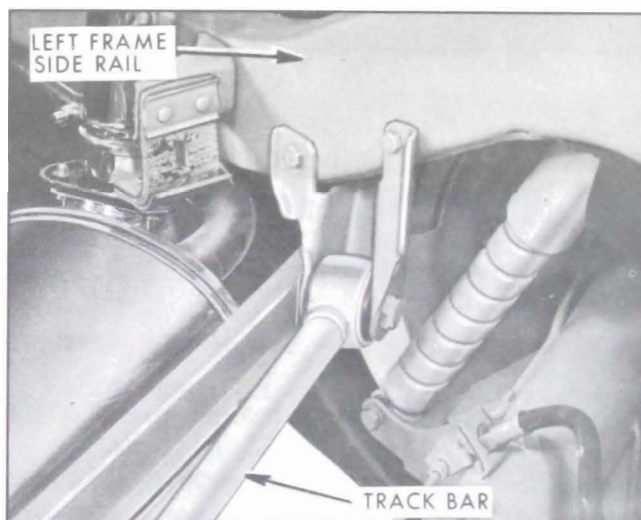

Figure 7-24—Track Bar-Frame Attachment
5. If track bar bracket is to be removed, remove three bolts, washers, and nuts attaching track bar bracket to frame side rails and remove track bar bracket. See Figure 7-24.